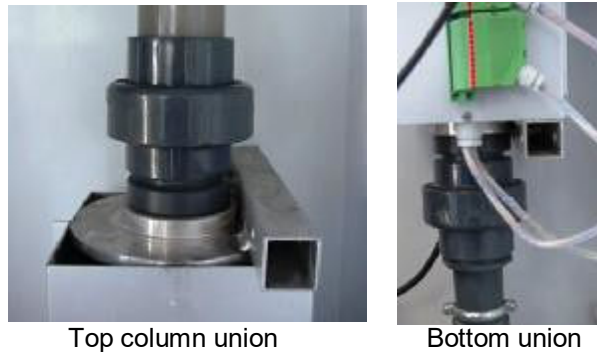

Figure 4
5. Drain water from the column and discharge piping. Note, if no drain is present, water may be removed through the venturi check valve. To do this, remove the brass check valve leading to the venturi (see Figure 4). This will allow water to drain out.